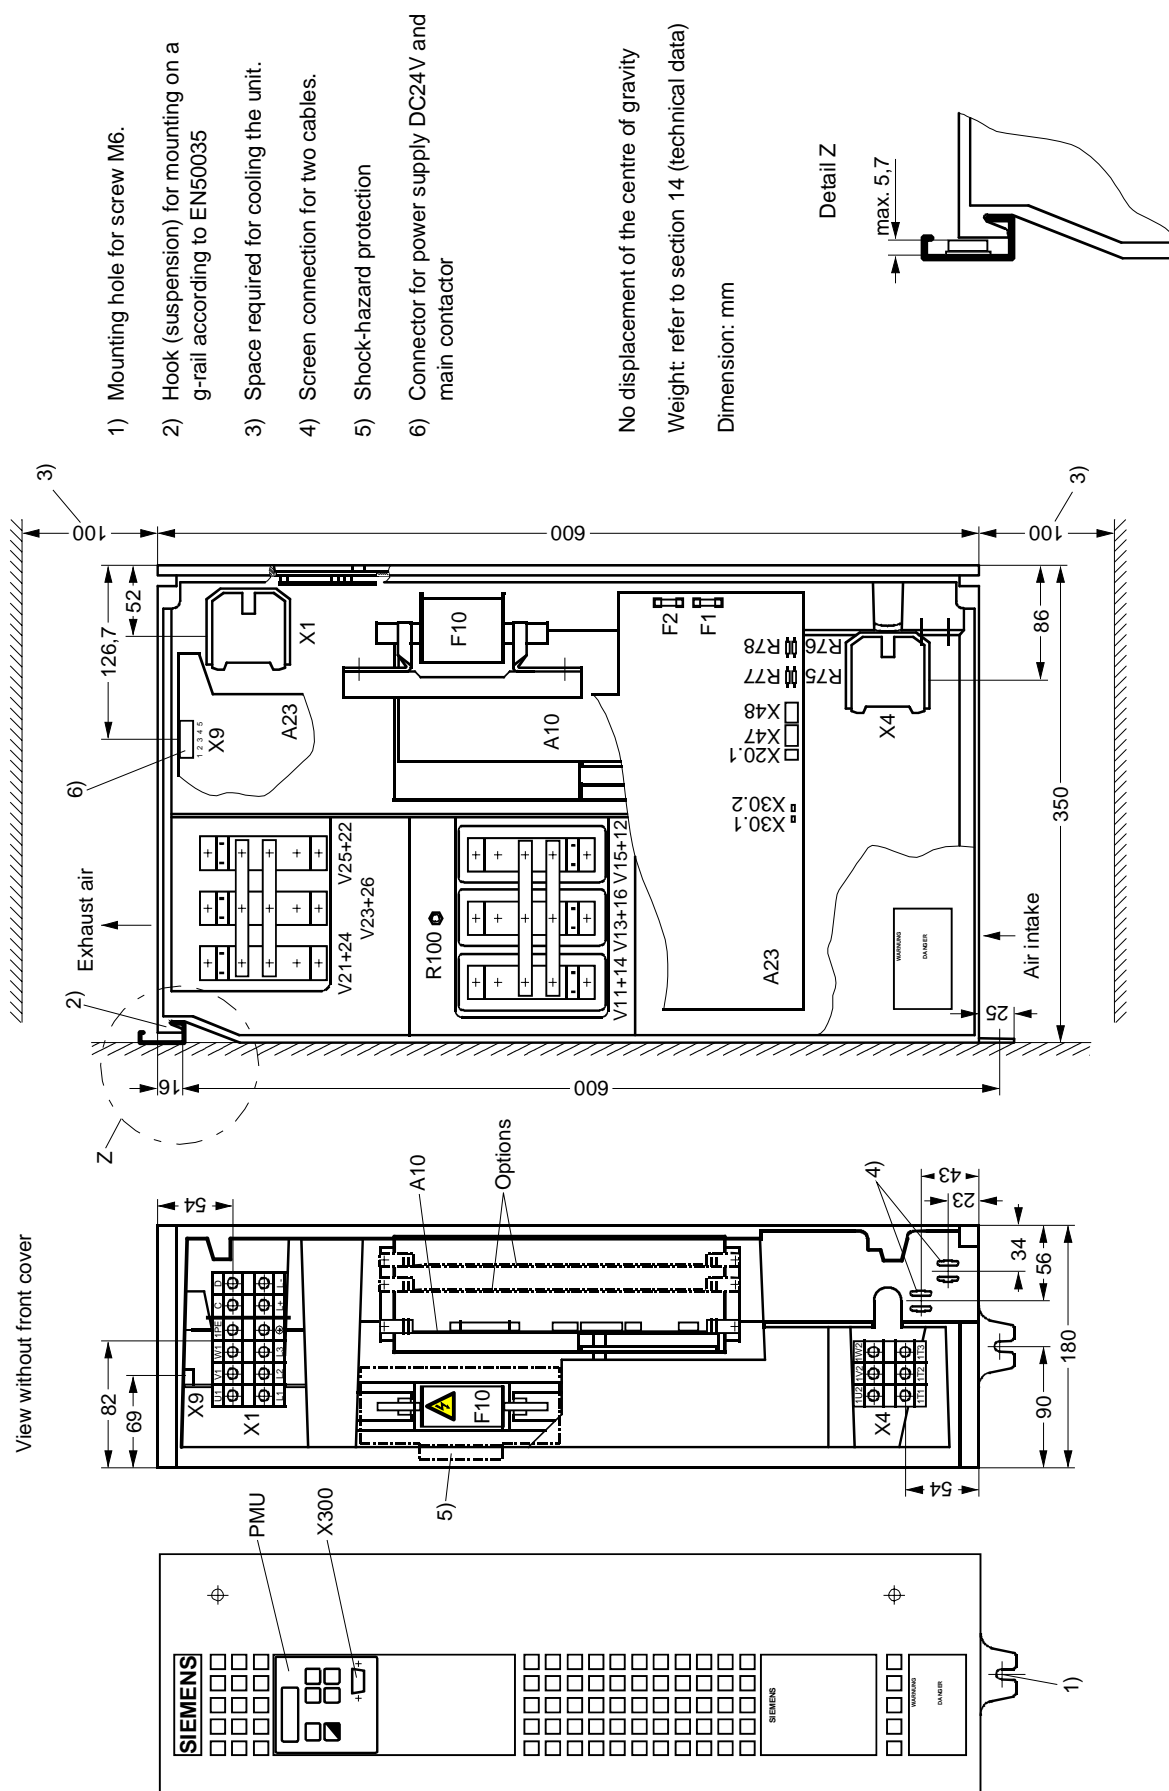

Figure 2.2 Dimension drawing, size C
- ◆ dimension drawing (Figure 2.2 for size C)